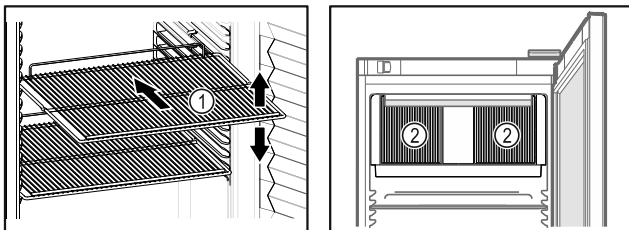

Fig. 63 Example illustration Fig. 64
- If there are adjustable shelves Fig. 63 (1), position them as required.